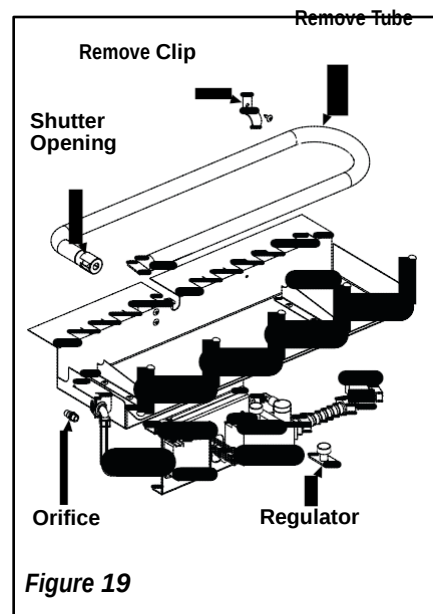

Figure 19
Step 3. Refer to **Figure 19**.
Step 6. (Refer to Figure 19 on Page 15)
- B.** Retrieve the burner and slide the venturi tube over the orifice. Secure the burner in place with the clip shown in **Figure 19**.